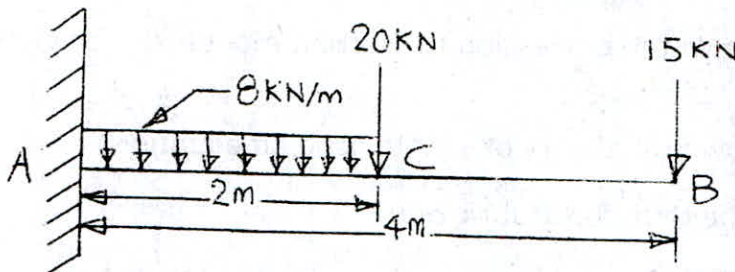

FIGURE-1
- 22. (A) Draw the SFD and BMD for the cantilever beam shown in figure-1. 12